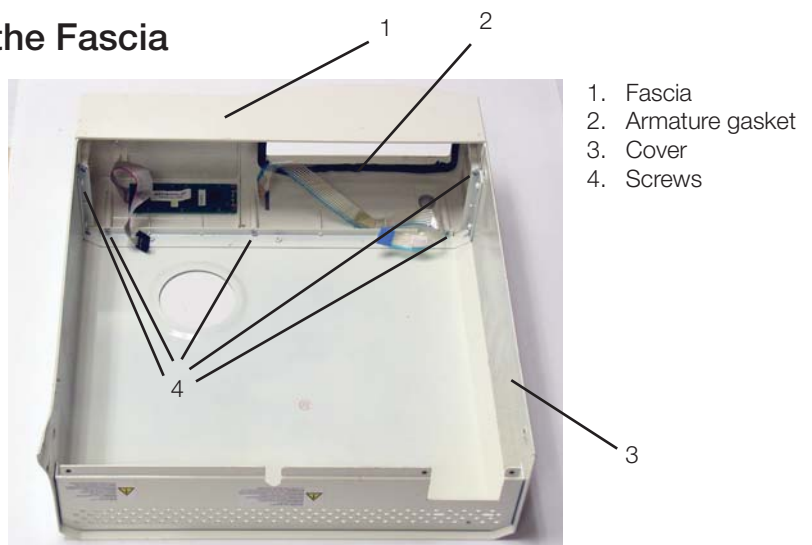

Figure 2
To replace the armature gasket (2), proceed as follows (see Figure 2):
1. Remove all traces of the gasket and gasket adhesive from inside the fascia (1). Note that the fascia is made of a thermoplastic. **DO NOT USE AROMATIC SOLVENTS THEREFORE ON THE FASCIA** as this will damage the surface. To prepare for installation of the new gasket (2), roughen the inside surface of the fascia where the gasket sits, using a fine grit abrasive paper.
To remove the fascia (1), proceed as follows (see Figure 2):
1. The fascia is attached to the cover (3) using five Plastite™ screws (4). Remove and retain the screws.
To replace the fascia (1), proceed as follows (see Figure 2):